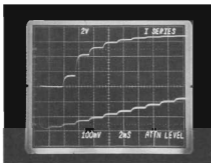

FIGURE 6-5
- (1) Connect an 0.47 μ f capacitor across A203C2.
- (2) Connect the Channel A 10X probe of scope to A203J1 pin 1 (Iseries). Connect Channel B 10X probe to A203TP17.
- (3) Remove and ground cable to A204J4.
- (4) Connect jumper between A203TP14 and TP16.
- (5) Select a value for A203R18 so the first two or three steps of the Attenuator Control Ramp have no effect upon Iseries (see Figure 6-5).
- (6) Remove jumper between A203TP14 and TP16. Remove capacitor. Reconnect cable to A204J4.
- (7) Apply a 0 dBm, 1.4 GHz CW signal to Band B input.
- (8) Press RESET switch. Increase signal level to the Band B input until the REDUCE SIGNAL light comes on. (Light should come on between -4 and +8 dBm. If it does not, select a new value for A203R17, and repeat steps (7) and (8) until it does.)